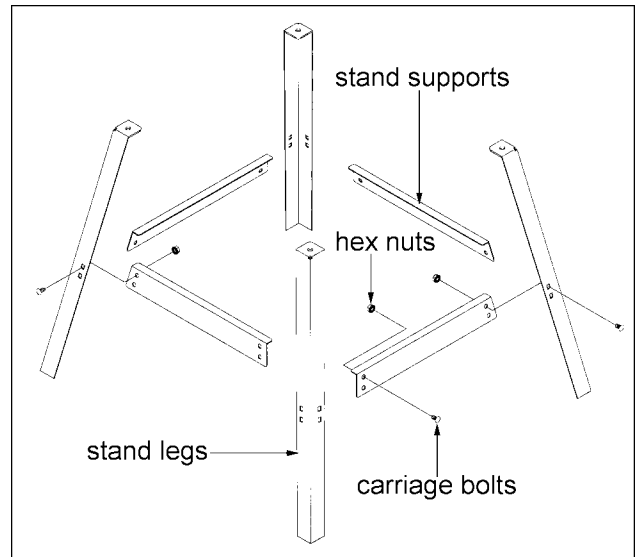

Fig. 1
1. Match the hole patterns in the stand legs with the hole patterns in the stand supports. Mount the legs to the outside of the supports using *sixteen* M8x16 carriage bolts and *sixteen* M8 flange lock nuts, figure 1. Do not tighten until the stand has been assembled and is sitting level on the floor.